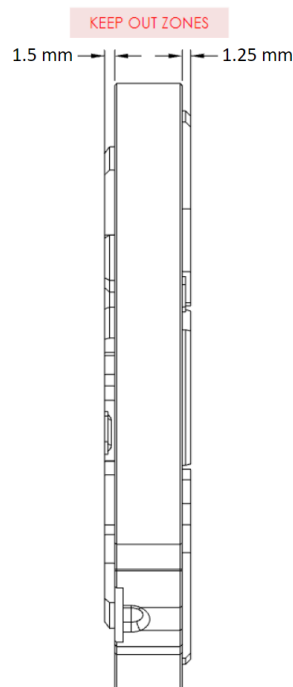

Figure 1: Sensor Keep-Out-Zones
- Do not mount anything below the keep out zone. All adapter and mounting plates must sit flush on the protruding surfaces, and cannot go below these surfaces. The sensor will not function as intended if the 1.5 mm and 1.25 mm zones are breached (Figure 1).